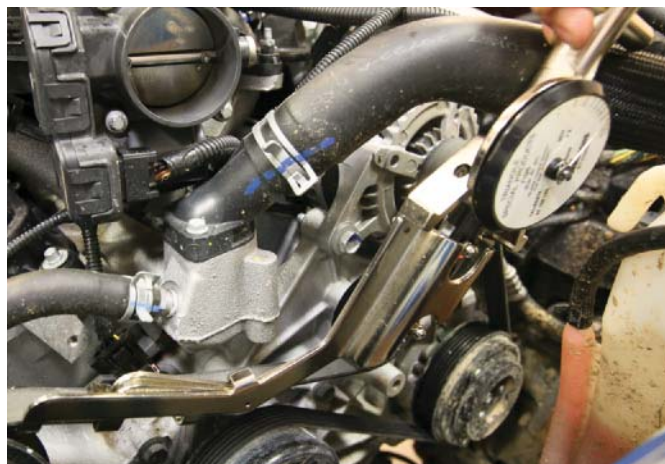

FIGURE 7-2 Checking belt tension using a tension gauge.
2. Drive belt tension (Figure 7-2).